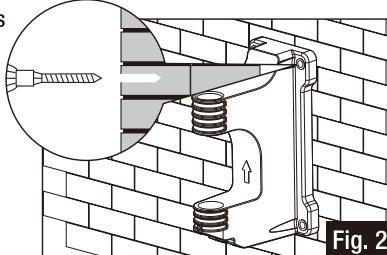

Fig. 2
5. Position the wall mount bracket on the wall, use a 13 mm socket (not supplied) to tighten the four screws into the four holes in the wall to secure the wall mount bracket in place (Fig. 2).